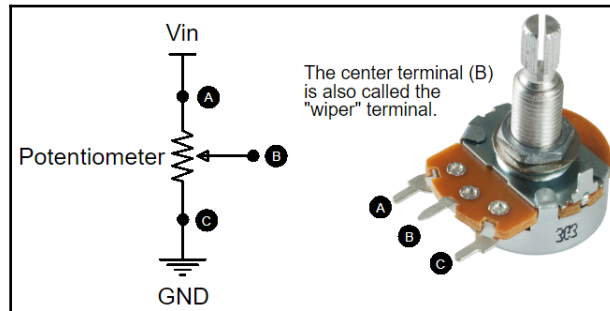

Figure 6.9 – A potentiometer is a voltage divider
1. Place the 10k $\Omega$  potentiometer on your breadboard. You'll notice that I have marked Terminals A, B, and C so that they match the labeling shown in *Figure 6.9*.